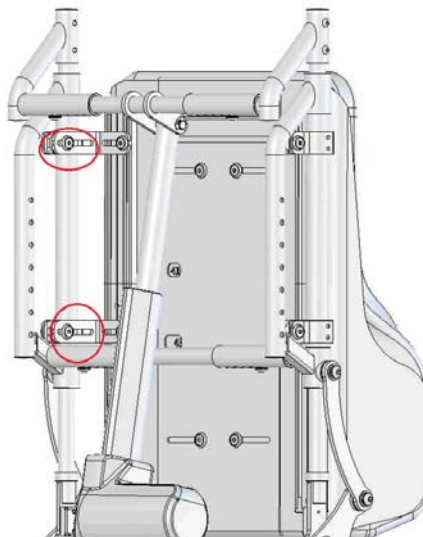

Figure 5-77
5.3.5.8 Use the #4 Allen Key Wrench to loosen the screws behind the backsupport . Adjust the backsupport forwards, backwards or at an angle to accommodate the user's needs. (Figure 5-77). Re-tighten the screws.
B or D if it is necessary. Re-tighten screws. (Figure 5-77)